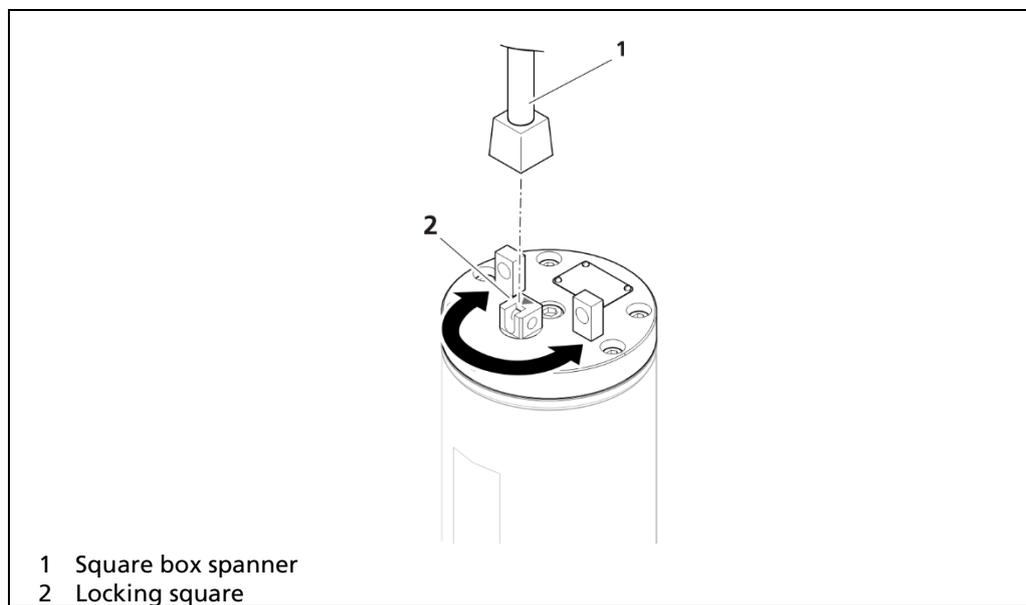

Fig. 13 Open and close the locking mechanism
2. Attach the square box spanner (Fig. 13, pos.1) at the locking square (Fig. 13, pos.2).